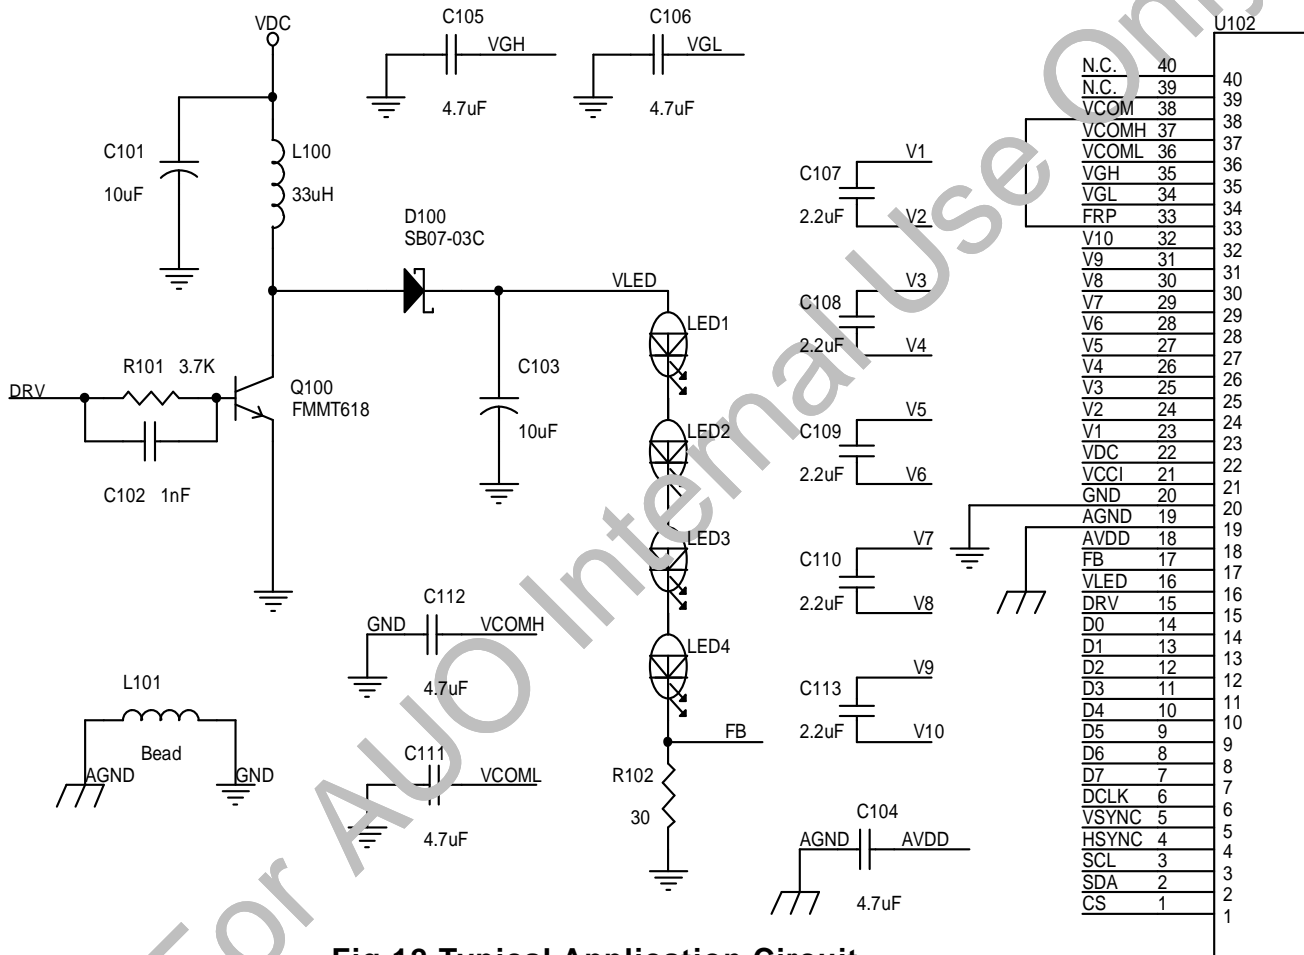

Fig.12 Typical Application Circuit
The integrated driver IC provides build-in LED booster controller, DC-DC charge pump, and Vcom driver. See Fig. 12 for the application circuit.
According to Fig. 12, the L100, Q100, D100, and C103 together form the LED boost converter. The converter with 0.6V feedback (FB) and R102 provide a constant 20mA current for LED backlight unit. The boost converter switching signal DRV is generated based on divided frequency of DCLK. Therefore the DCLK input is required for LED driver operation, and the absent of DCLK signal during normal operation will set the driver IC into standby.